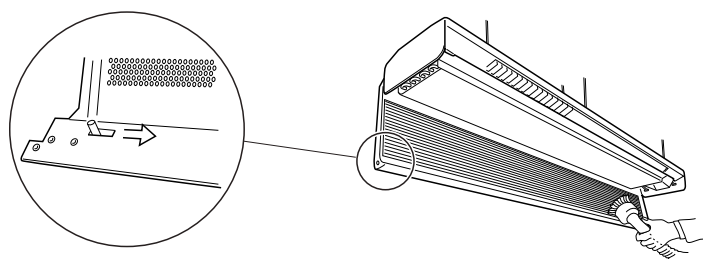

FIGURE 20
- 2) Push the slider over (See **FIGURE 20**) to pop open the face plate and then vacuum the coil with a vacuum brush attachment every 5-10 years, or as needed.